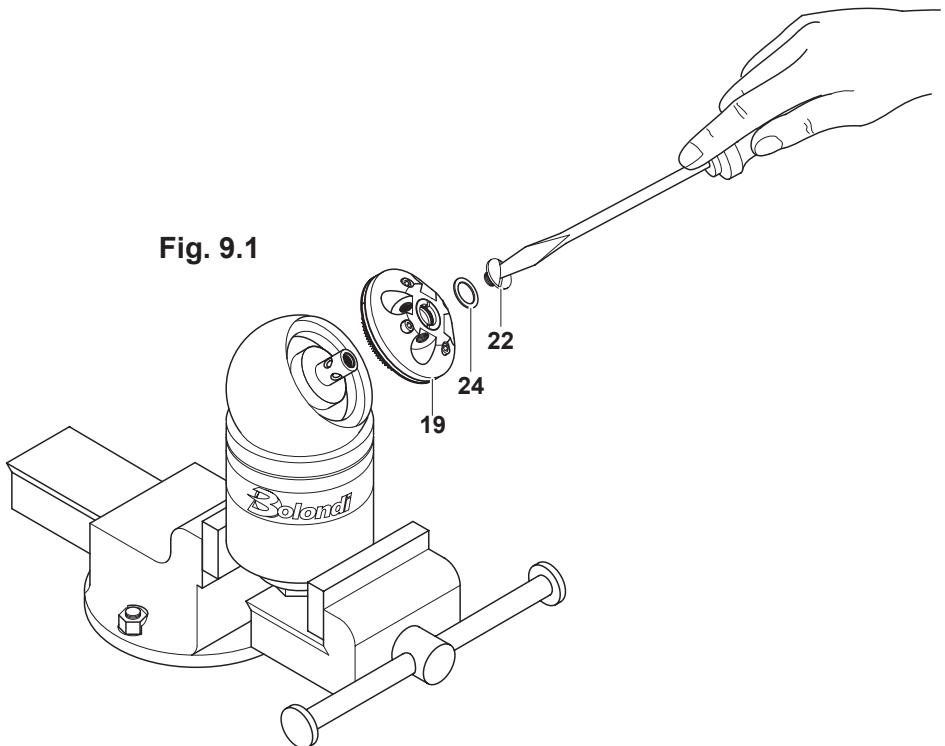

Fig. 9.1
9.1.2) Remove the washer pos.24, pull the complete nozzle holder out pos.19 and the washer pos.20 (Fig.9.1).